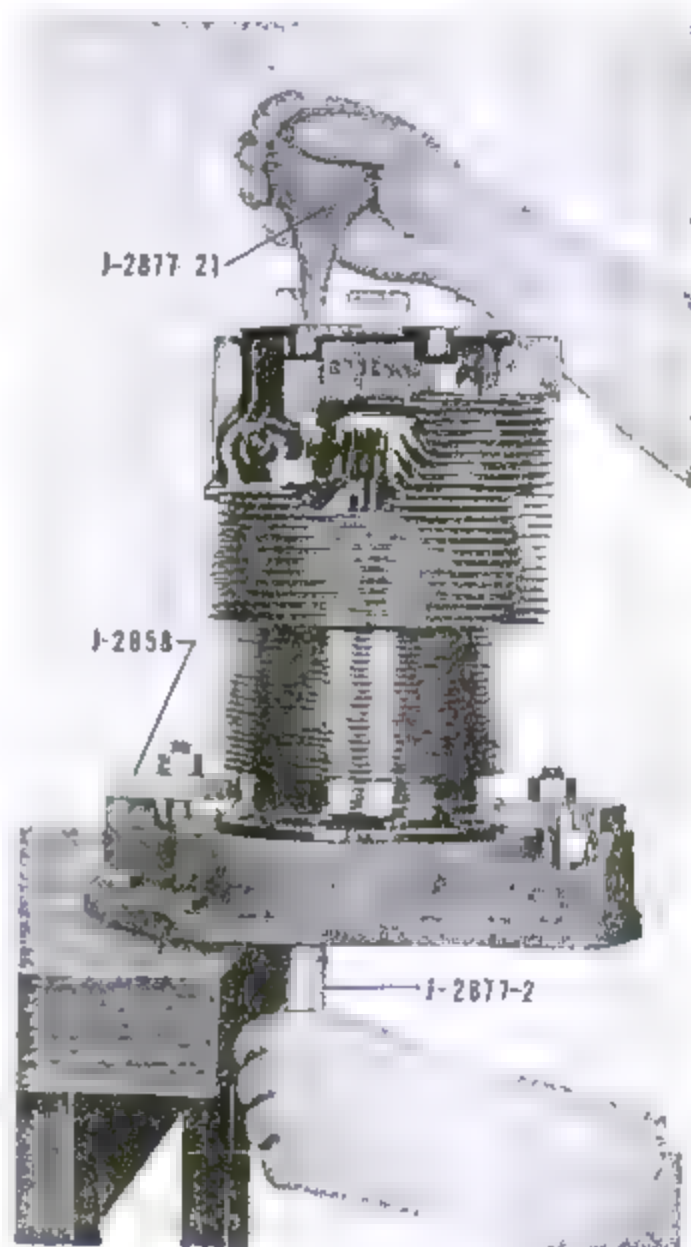

Figure 5-5. Replacing Valve Seat
b. Remove cylinder from oven and place it upright on cylinder and valve holding fixture, tool group 3, with valve holder removed. Support fixture so that valve seat removing tool may be inserted through opening in base. (See figure 5-5.)